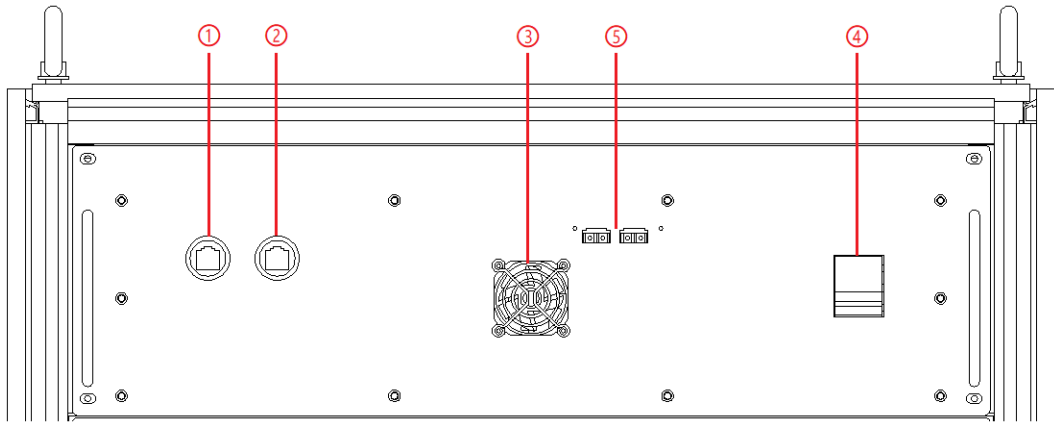

Figure 1-14 Control module of front panel
The master slaver interface is located on the front panel of control box, as shown in Figure 1-14⑤.